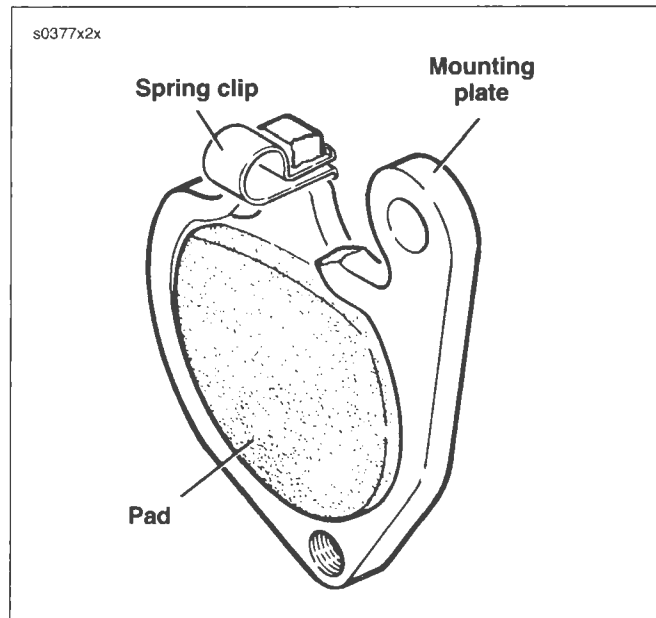

Figure 2-69. Spring Clip Installation
10. Lay the mounting bracket (17) down on a firm flat surface. The upper mounting bolt hole must be positioned at the upper right.
11. See Figure 2-69. Install the spring clip at the top of mounting plate as shown.